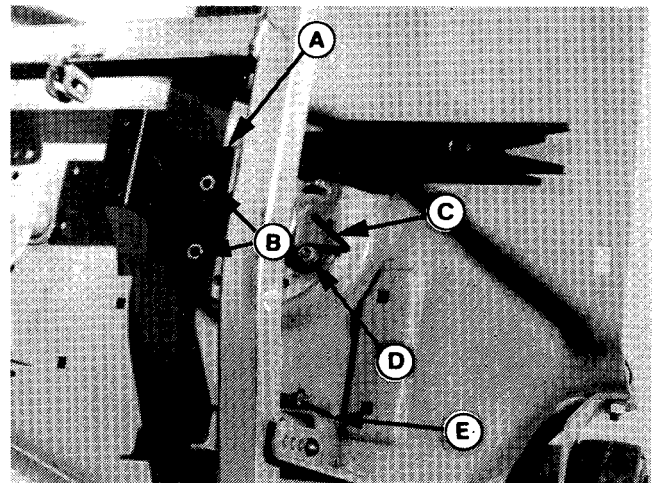

Figure 4.
10. Install new belt cover bracket (A, figure 4) using existing arbor screws and supplied 5/16-18 locknuts (B). Install upstop (E) on right rear post with 1/4-20 cap screw, lockwasher, and nut.
- Install belt stop (C, figure 4) onto existing arbor screw as shown in figure 4. Secure with existing flat washer, lockwasher, and nut ((D, removed from bracket in step 3). Tighten snug only at this time.